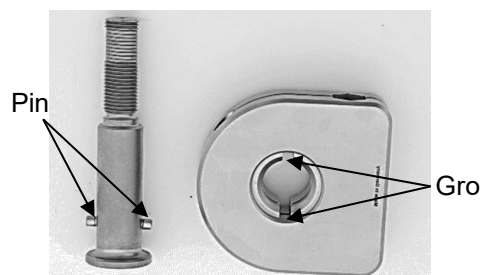

Fig. 11
When assembling the cross connector, ensure that the pins on the threaded rod (4) engage in the grooves of the lower clamping piece (3) (Fig. 11).